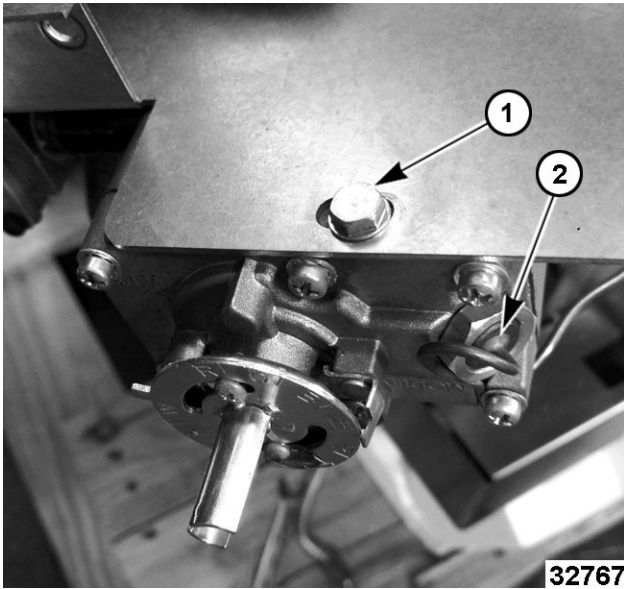

Fig. 32
3. Remove screw (1, Fig. 32) securing temperature control to gas mount bracket.
Remove capillary (2, Fig. 32).